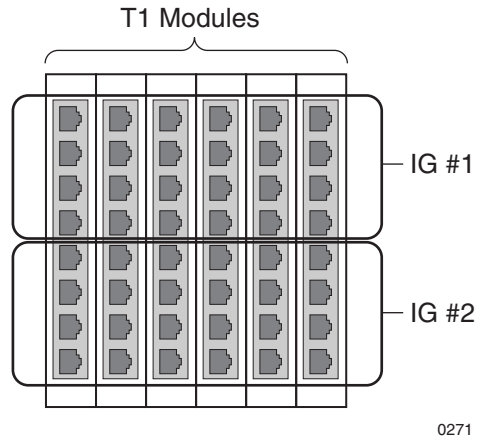

Figure 2-10. T1 Port Failure Protection
- **T1 port failure**—interface groups comprise T1 ports and are arranged across T1 modules so that IGs are shared among T1 modules (Figure 2-10). The shared arrangement provides a backup T1 port to each T1 module should one of the IG groups fail.